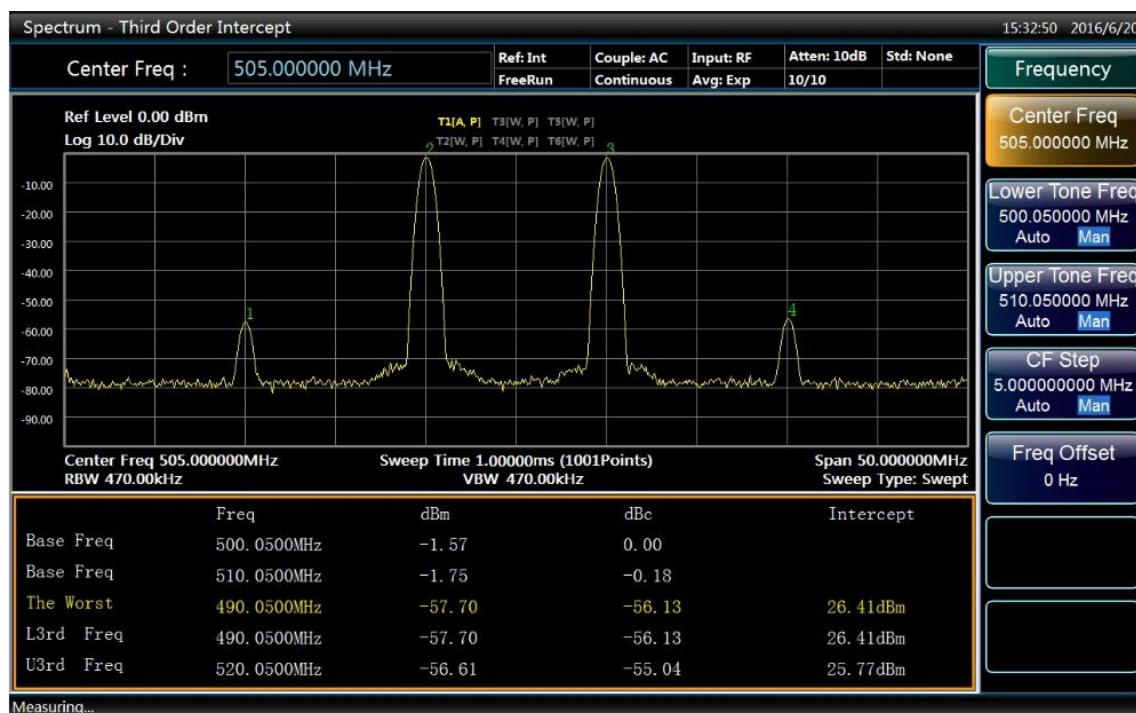

Fig. 4.79 Results of Three-order Intermodulation Measurement
- Results of third-order intermodulation measurement are shown in Fig. 4.79. Text window shows the fundamental frequency and power, and third-order inter-modulation frequencies and power, and gives third- order intercept values.